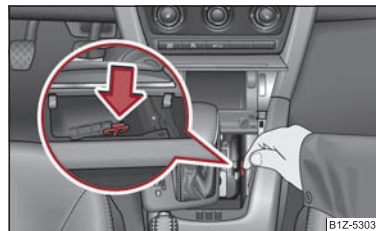

Fig. 122 Selector lever-emergency unlocking
- Use a finger to press the yellow plastic part in direction of arrow ⇒ page 118, fig. 122.